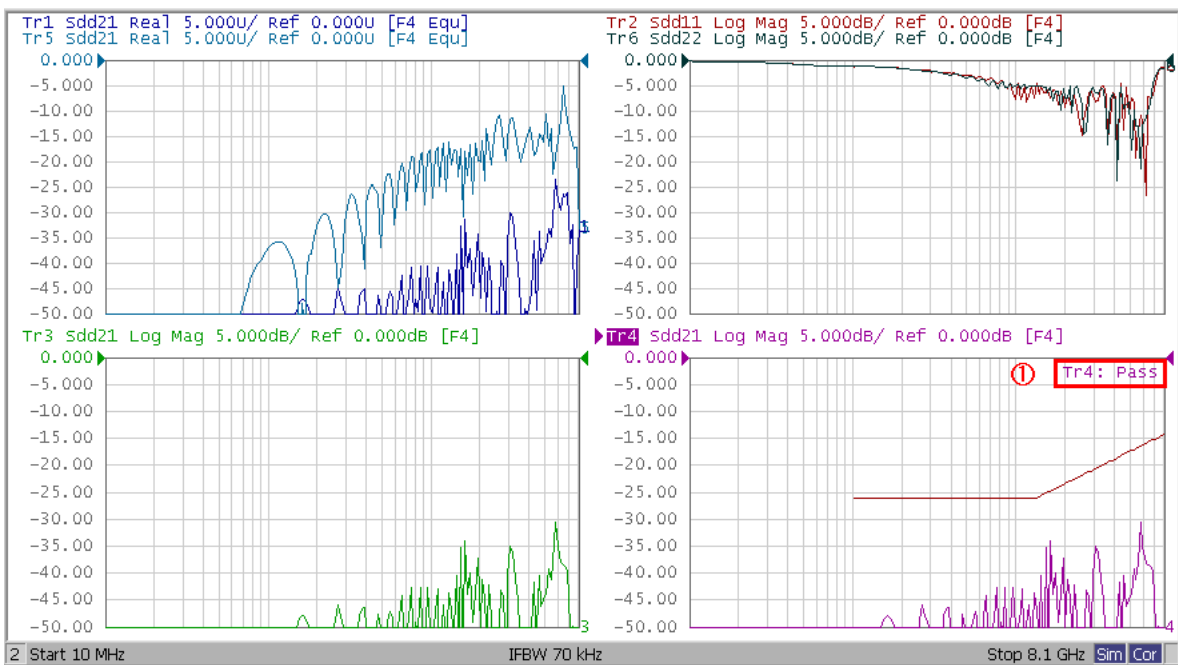

Figure 5-5: Near End Noise Measurement Example.
Read Pass/Fail sign on Trace 4 (item 1 in Figure 5-5).